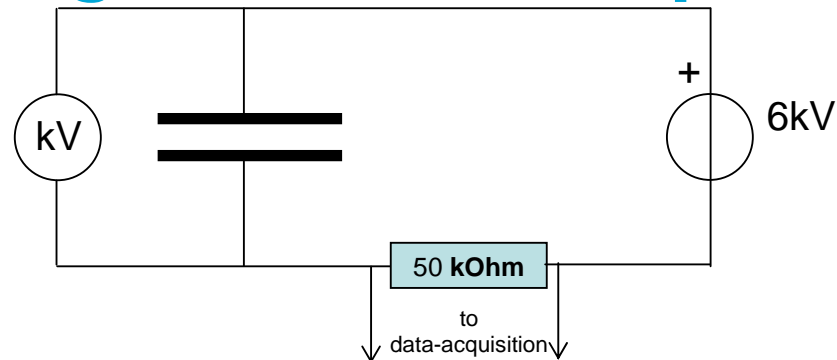

Figure 3
**2.** Again the plates are set at minimum distance, just separated by the Teflon strip. A 50k $\Omega$  resistor is inserted in the ground-lead and a connection is made to the data-acquisition system (see Figure 3). The 6kV power supply is connected to the capacitor. The voltmeter now reads 6kV in all situations.